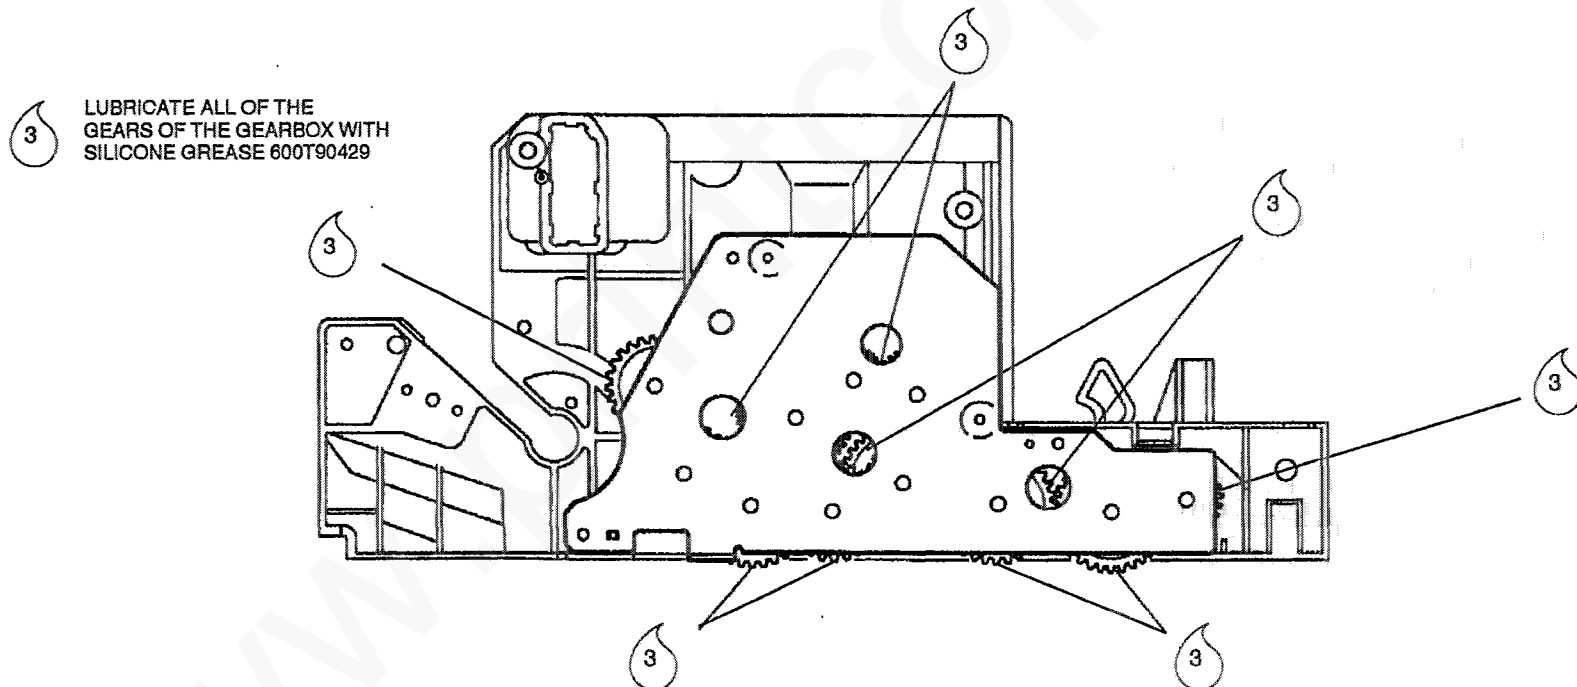

Figure 1. Right side frame drive gears lubrication
2. (Figure 1) Lubricate the drive gears as indicated.